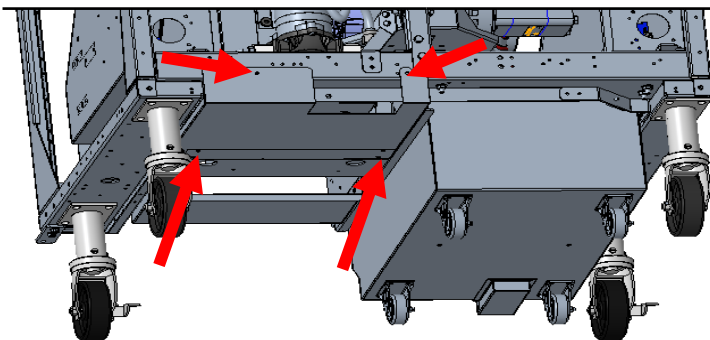

Fig 3
4. Locate and remove splash guard from bottom rear of system (Fig 3).
13. Reinstall splash guard from (Figure 3).